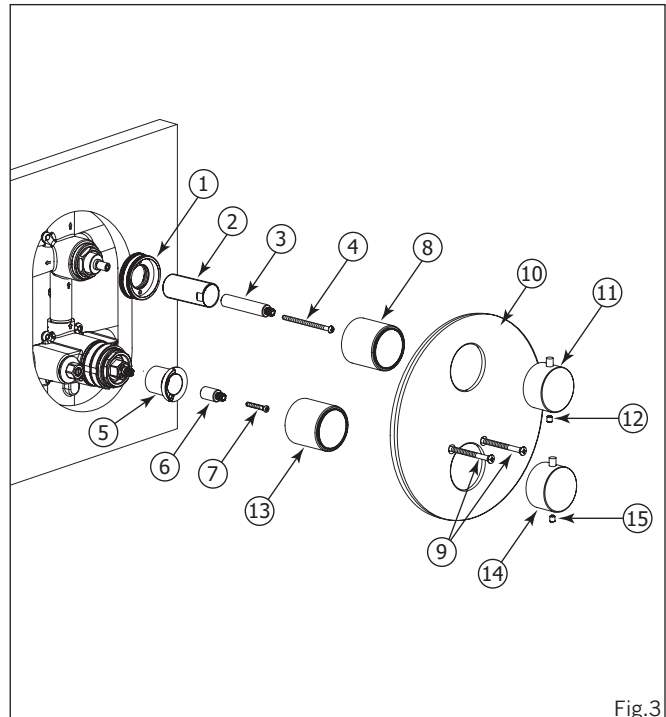

Fig.3
Insert the broach extensions (3 & 6) and secure with the screws (4 & 7). Then screw the components 2 & 1 in place, and put the temperature stop ring (5) onto the thermostatic cartridges (arrow on top). Screw the decorative sleeves (8 & 13) onto the thermostatic and diverter holders (See Fig.3). Slide-in trim (10) around the valve body and press it firmly against the wall. Fix the trim (10) with the 2 screws supplied (9). Insert the handle (11 & 14) and tighten with set screw (12 & 15).